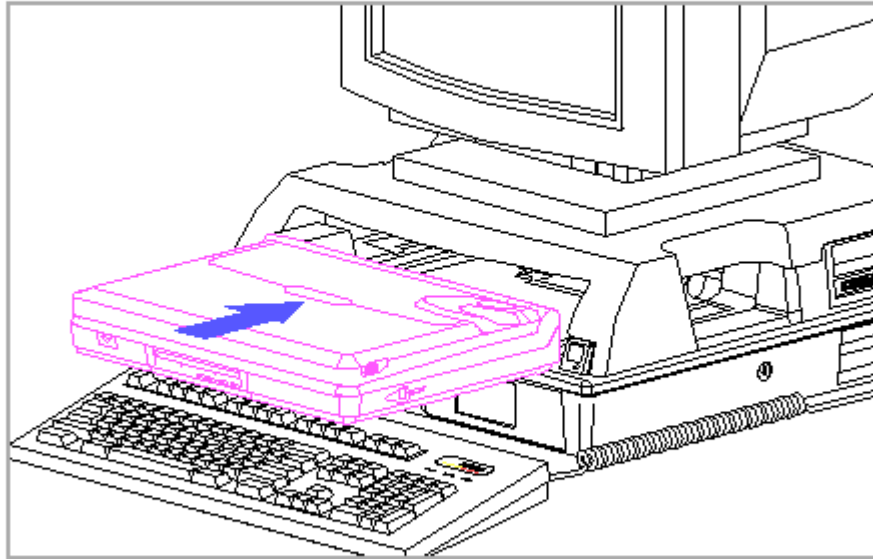

Figure D-4. Docking the Compaq LTE Elite in the Compaq SmartStation
8. Slide the computer forward in the docking bay until you feel the computer being pulled from your hands (Figure D-4).